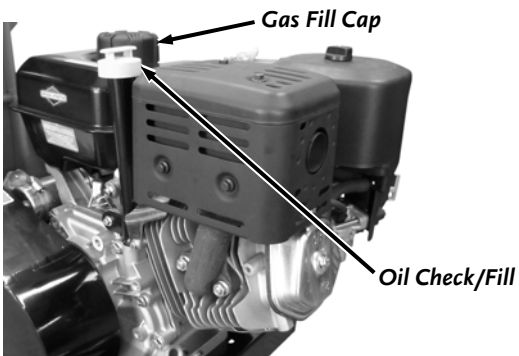

Figure 21a: 16.5 Model
1. Place the machine on a level surface and remove the Dipstick (clean the end of the Dipstick with a rag) (**Figure 21a and 21b**).
- Remove the Gas Fill Cap and fill the Gas Tank with fresh, unleaded gas (with a minimum of 85 Octane) to approximately 1" to 1-1/2" below the top of the fill neck to allow for fuel expansion (**Figure 21a and 21b**). Be careful not to overfill and reinstall the Gas Fill Cap before starting the engine. See your Engine Owner's Manual for more detailed information.